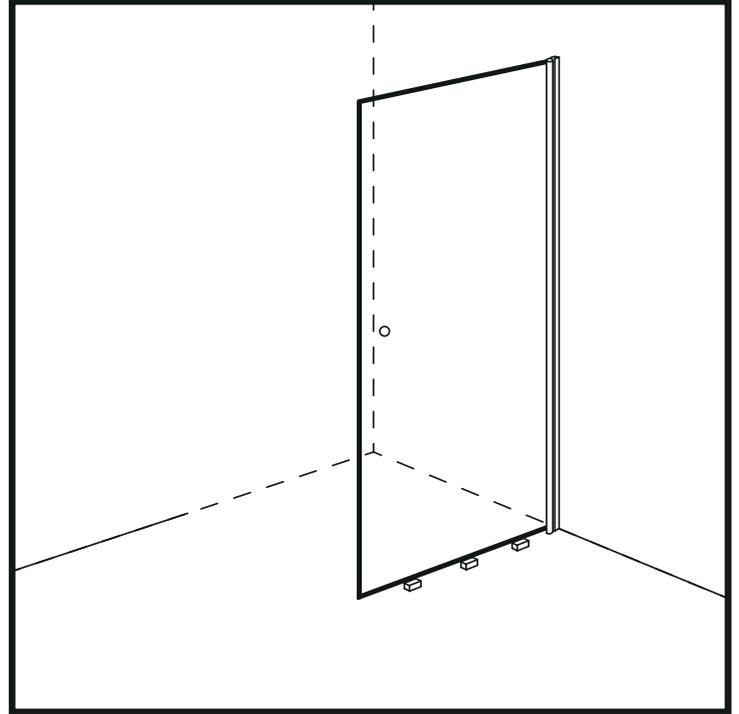

Figure 3
8. Place wooden blocks on the floor (maximum thickness 10 mm) to support the door glass from the package, which already has the manufacturer-installed single hinge attached. (Figure 3)